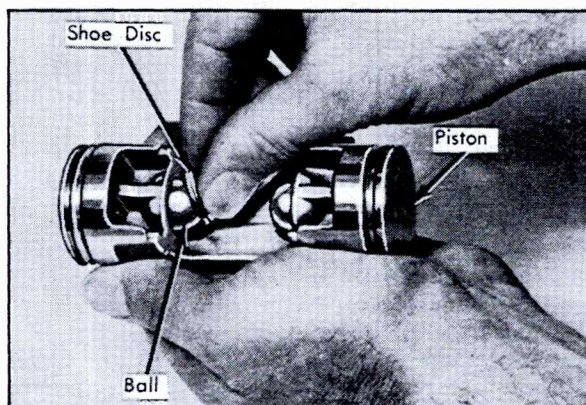

Fig. 1-64 Installing Shoe Disc
7. Lubricate cavity of a zero shoe disc with refrigeration oil and place shoe disc over ball in front end of piston, Fig. 1-64. Front end of piston has an identifying notch in casting web. Piston rings should not be installed at this time.